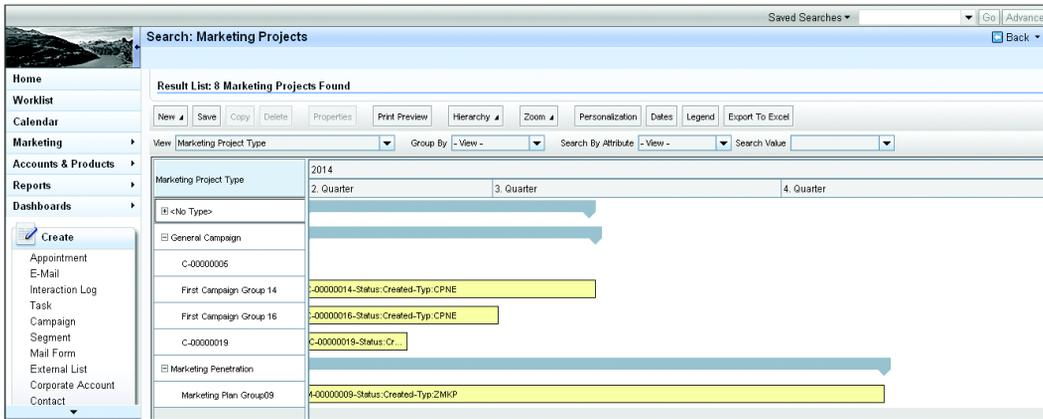

Figure 5.8 Marketing Calendar with Marketing Projects
9. The *marketing calendar* shows a list of completed marketing projects available in the system. You can add multiple selection criteria to segregate your marketing project. Figure 5.8 shows all of the marketing projects and the duration of each project. Marketing projects can be an agreement, campaign, deal, initiative, loyalty program, marketing plan, market development fund (MDF) program, reward rule, and trade promotion.